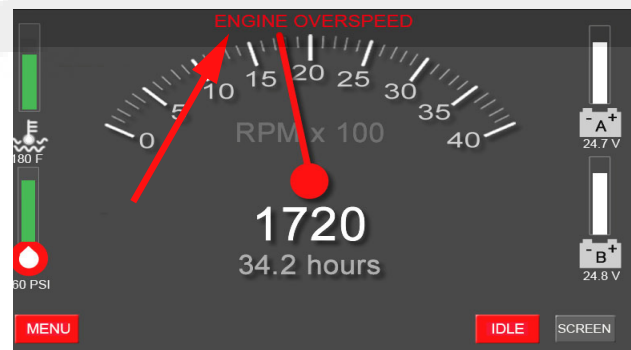

Figure 4-12 Overspeed Test Timer Expired (Sample)
5. When the timer expires (shown in Figure 4-11), "ENGINE OVERSPEED" written in red will flash at the top of the FPDP screen (shown in Figure 4-12).